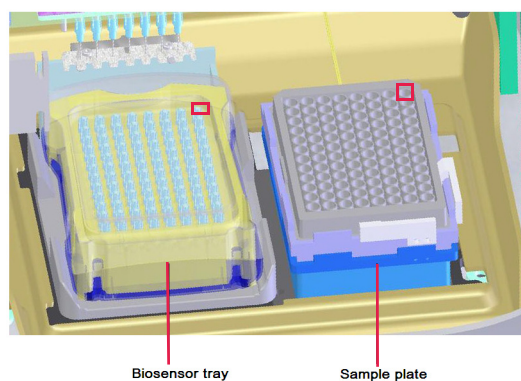

Figure 8-74: Biosensor Stage (left) and Sample Stage (right)
2. Place the biosensor tray on the biosensor stage (left side) so that well A1 is located at the upper right corner (see Figure 8-74).
3. Place the sample plate on the sample stage (right side) so that well A1 is located at the upper right corner (see Figure 8-74).